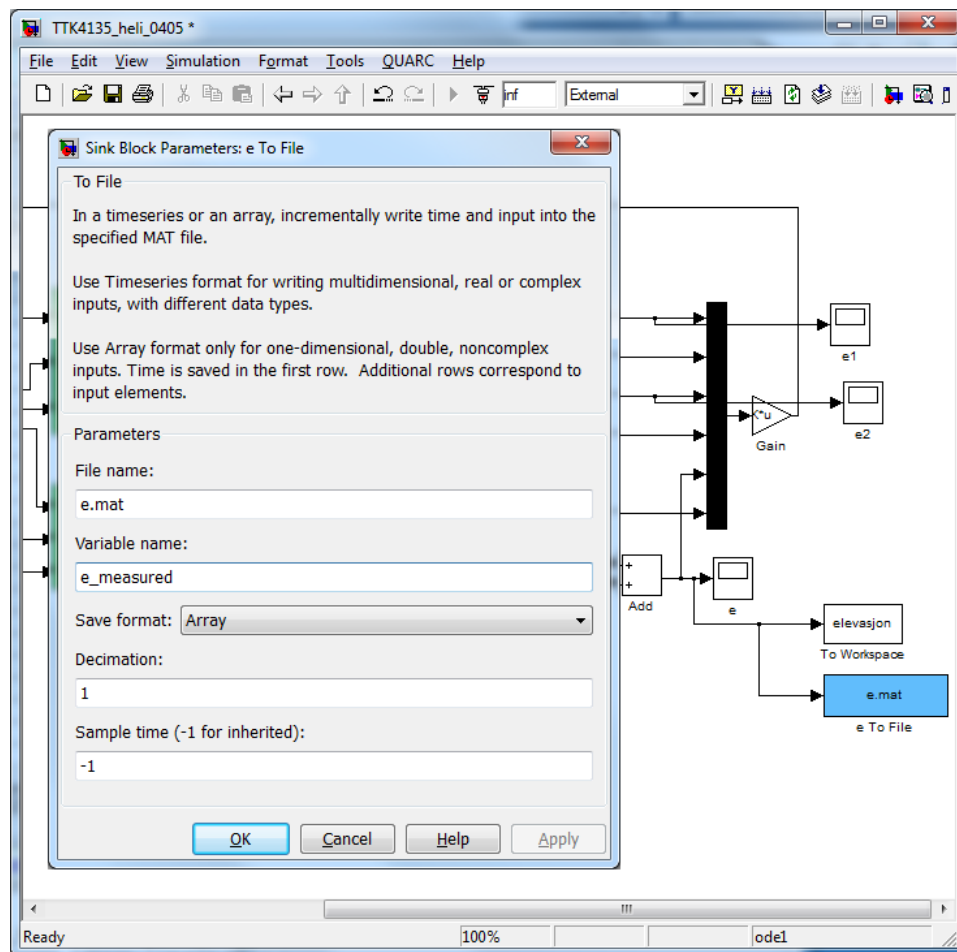

Figure 10: The block (in light blue) connected to the elevation measurement, and the parameters dialogue. Note that format has to be “Array”.
2. Connect the block to a signal you want to measure. Input some suitable parameters, and note that the format has to be Array — see Figure 10.